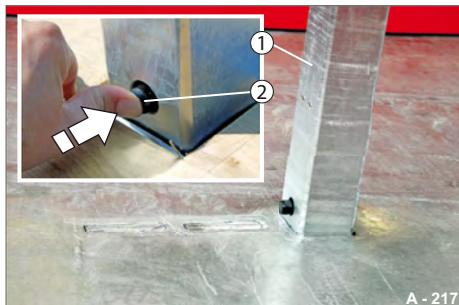

Fig. 226 Releasing stanchion
- ▶ Press the lock button (Fig. 226/2).
The stanchion (Fig. 226/1) is released.